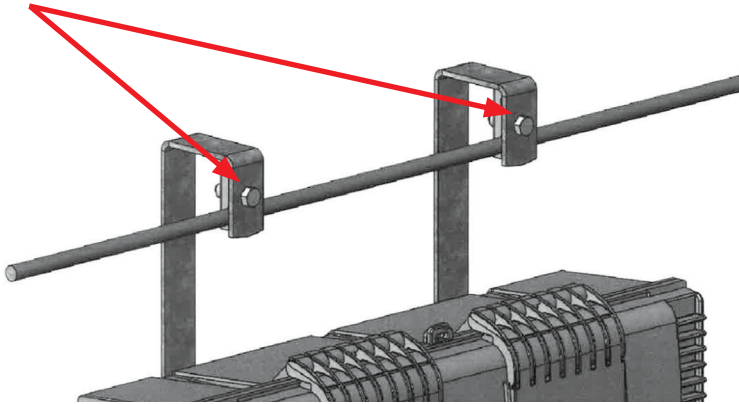

FIGURE 4
1. Secure the Yellow Jacket Aerial Terminal on the strand [Figure 4] using the strand clamps attached to the enclosure.